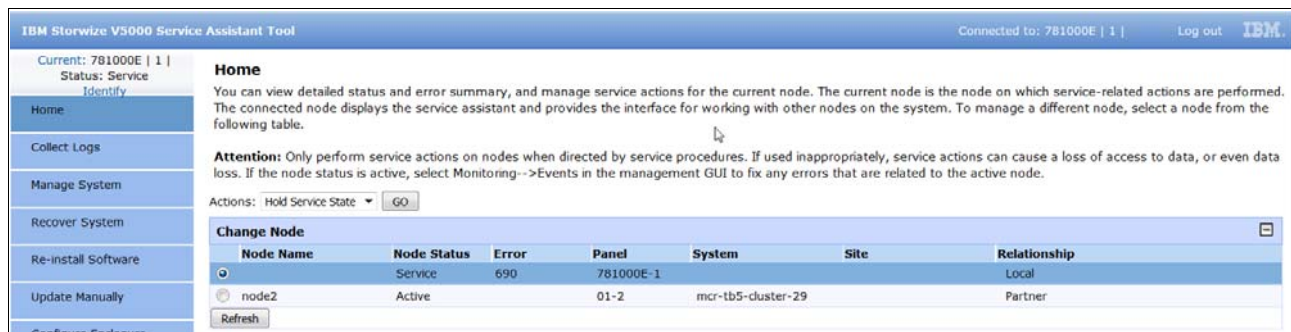

Figure 12-52 Node to update in the Service Assistant Tool
- In the Service Assistant Tool, ensure that the node that is ready for update is selected. The node can be in the Service status, display a 690 error, and show no available cluster information, as shown in Figure 12-52.